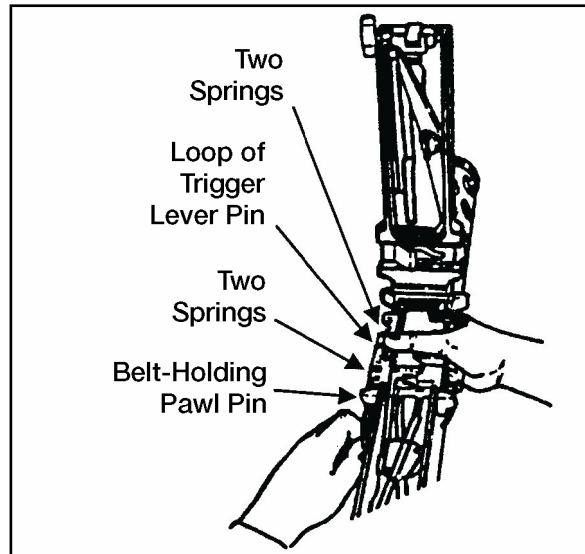

Figure 071-022-0001-21. Removal of the belt-holding pawl pin, assembly, and springs
(3) Raise the loop of the trigger lever pin and rotate it into a vertical position. Reach inside the receiver, grasp the trigger lever, and remove the trigger pin assembly and trigger lever (figure 071-022-0001-22).